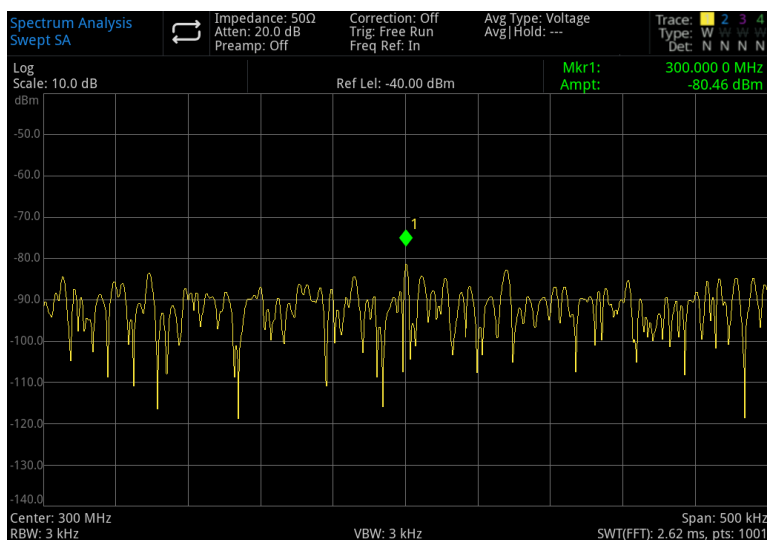

Figure 3-11 A Signal Close to Ground Noise
5. Decrease the sweep span to 500kHz (as shown in Figure 3-11) ;